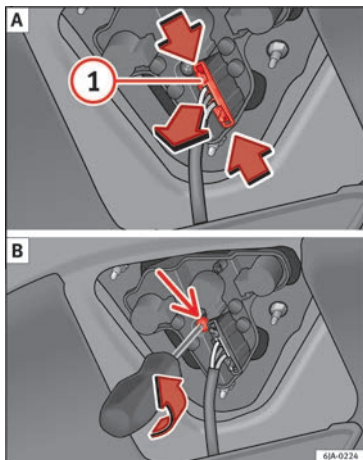

Fig. 160 Remove the lamp holder
- Access the lights by disconnecting the connector ① »» Fig. 160 [A] and unscrewing
- the bulb holder »» Fig. 160 [B]. Take care not to lose the bulb holder retaining screw.